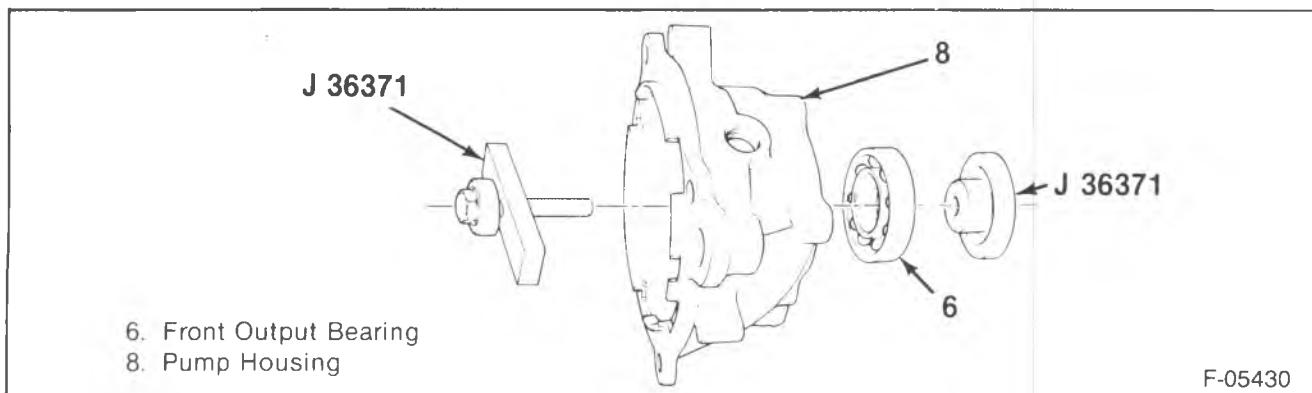

Figure 13—Pump Housing Bearing Installation
5. Bearing (6) to the pump retainer housing (8) using J 36371 (figures 13 and 14).